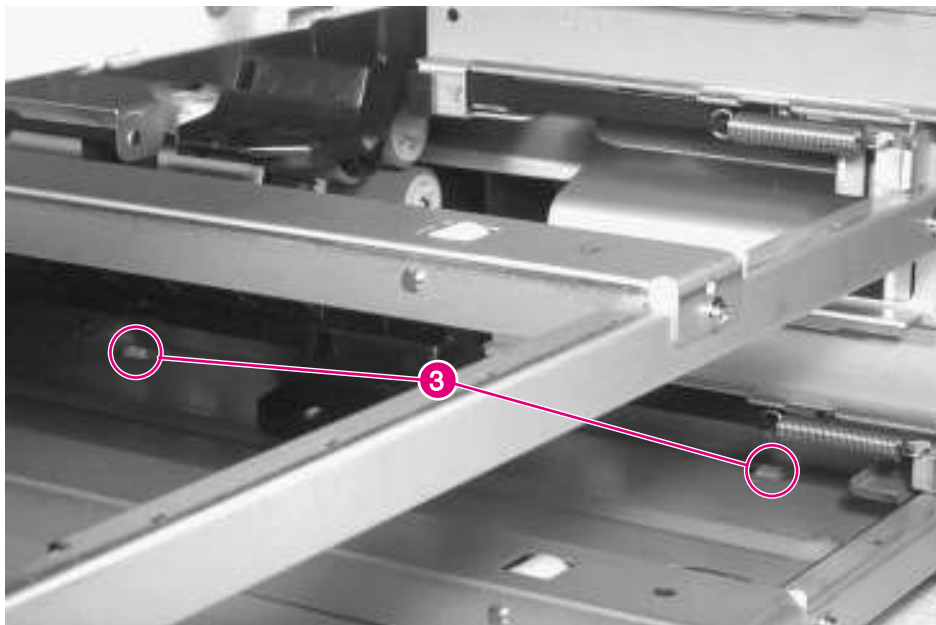

Figure 6-18 Right Lower Door Assembly (3 of 3)
- 5 Release two retainer tabs from the inside of the Tray 3 cavity (figure 6-18, callout 3).